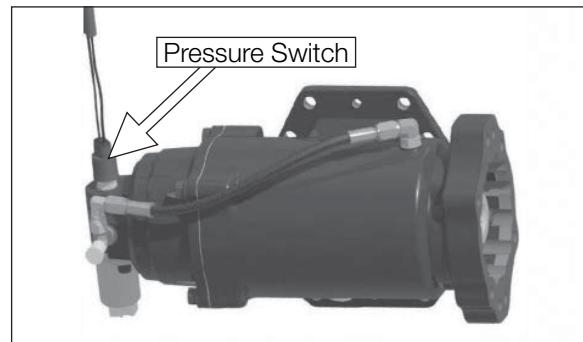

Figure 29
2. Install the PTO pressure switch onto port on the hydraulic valve cap. Torque to 10-12 lb-ft [13-16 N·m] **(Fig. 29)**.